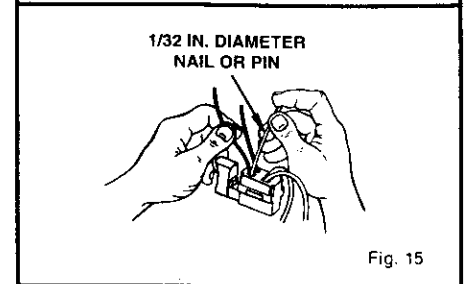

Fig. 15
2. Remove the switch from the handle and disconnect the cord leads from the switch. See Figure 15.